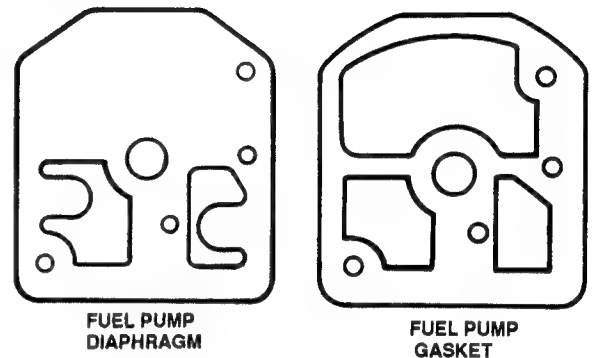

FIGURE 22
8. Remove the fuel pump cover for inspection of the fuel pump gaskets, diaphragms and screws. Ensure proper reassembly order of gaskets/diaphragms. See Figure 22.